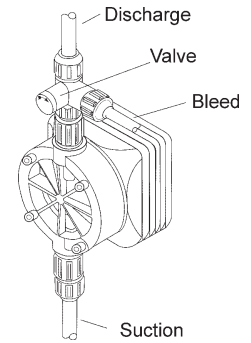

FIGURE 10
- If the discharge line is connected directly to a pressurized system it should be temporarily bypassed during priming of the pump. The bleed valve supplied with the pump will simplify this operation by allowing easy bypass of the discharge fluid (refer to Figure 10 at the top of the next page). The bleed line should be routed back to the supply tank.